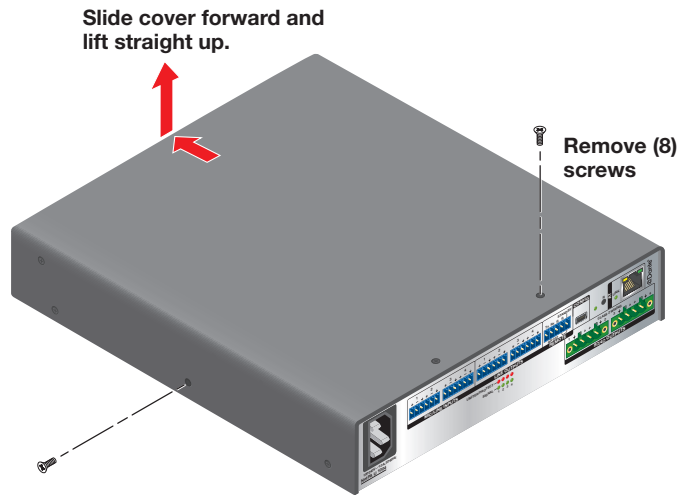

Figure 7. Removing the Cover
2. Remove the eight screws from the top, sides, and bottom of the amplifier, then slide and lift the cover off (see **figure 7** on page 13).